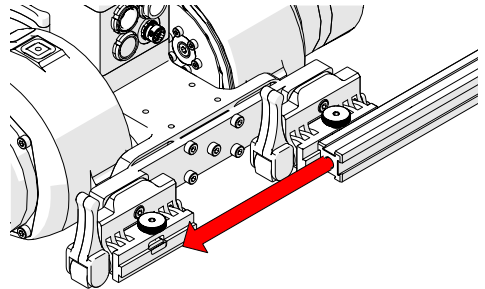

Fig. 53 - Slide frame bar onto mounts
3. Slide frame bar onto both pivot mounts (Fig. 53).